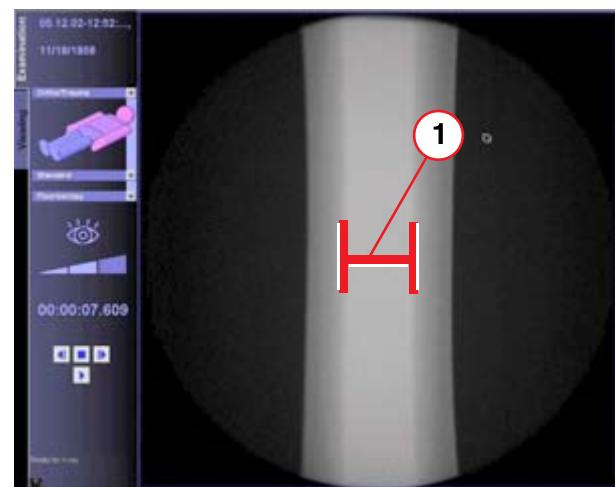

Fig. 9: diamenter_slot_diaph
4. Briefly release fluoro and measure the minimum distance between the front edges of the slot diaphragm in full format (1/Fig. 9 / p. 27).
- ⇒ Slot diaphragm Close Pos. in mm (1/Fig. 9 / p. 27).